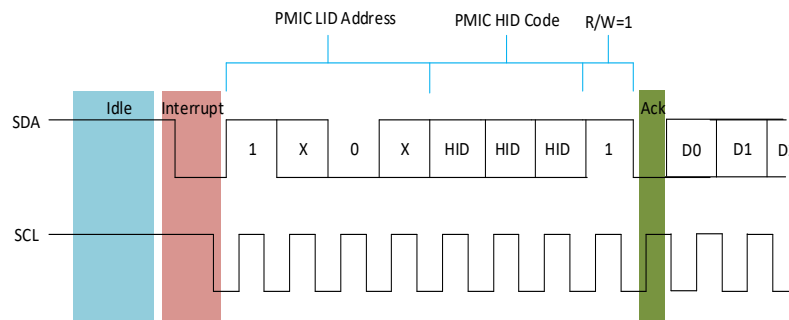

Figure 39 — PMIC Request Interrupt; Host Ack followed by PMIC Device IBI Payload
- The Host sends ACK on 9th bit to accept the interrupt request. At this point, if the PMIC confirms that it has won the arbitration, the PMIC transmits the IBI payload as shown in Table 51 and Table 52 for PEC disabled and PEC enabled configuration respectively. See Figure 39. Figure 39 just shows only first two data bits of the first payload byte (MDB Byte) to illustrate the timing. The interrupt payload contains MDB followed by PMIC error register contents Table 104, Register 0x08 to Table 107, Register 0x0B and Table 147, Register 0x33 in order. The host then issues the STOP command. Note the timing waveform in Figure 39. The host then accepts the IBI payload if it sends an ACK on 9th bit to accept the interrupt request. The host can interrupt the IBI payload at T bit. If host stops the IBI payload at T bit in the middle of payload, the PMIC Hub device retains the IBI Status flag Table 106, Register 0x0A [1] and Pending Interrupt Bits [3:0] internally and waits for the next opportunity to request an interrupt. If the PMIC device successfully transmits the entire IBI payload, it then clears the IBI Status flag Table 106, Register 0x0A [1] = '0' and Pending Interrupt Bits [3:0] = '0000' on its own and does not request for an IBI again unless there is an another different event occurs; for another same event, the device does not request for an IBI.